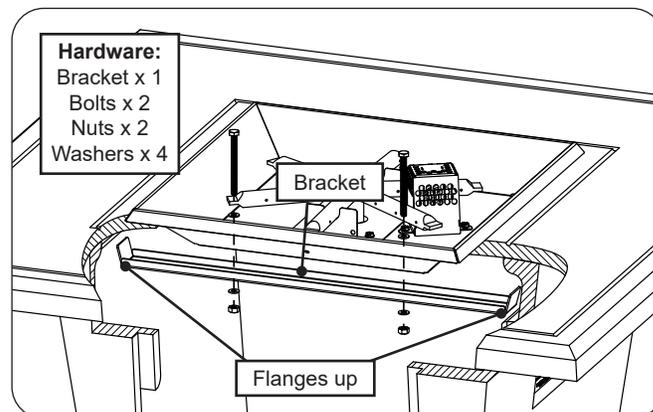

Fig. 34-4 Install bracket
7. Locate the supplied support bracket and install as shown in Fig. 34-4. The bracket must be inserted into the enclosure through the door opening, aligned with the holes found on the burner pan, and fastened with a 1/2" wrench and the supplied bolts (2), nuts (2), and washers (4).